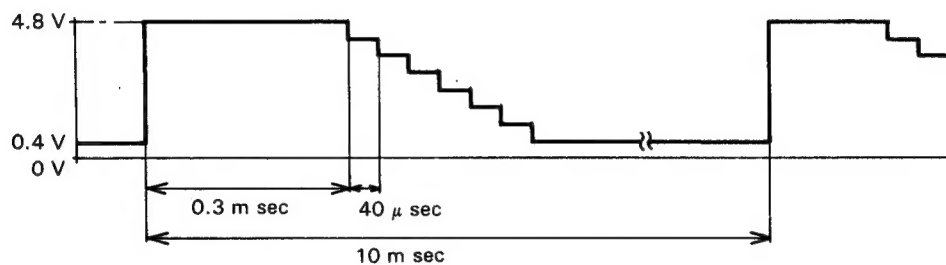

Fig. 14
Waveform is different when B.SKIP/SCAN/EDIT(B)/EDIT(F) and other keys are pressed. For example, when EDIT(F) key is pressed, the staircase waveform is as shown in Fig. 14.